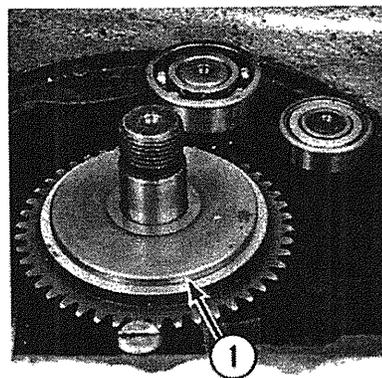

Fig. 3-7
- Remove upper planetary shaft spacer (1, Fig. 3-7).